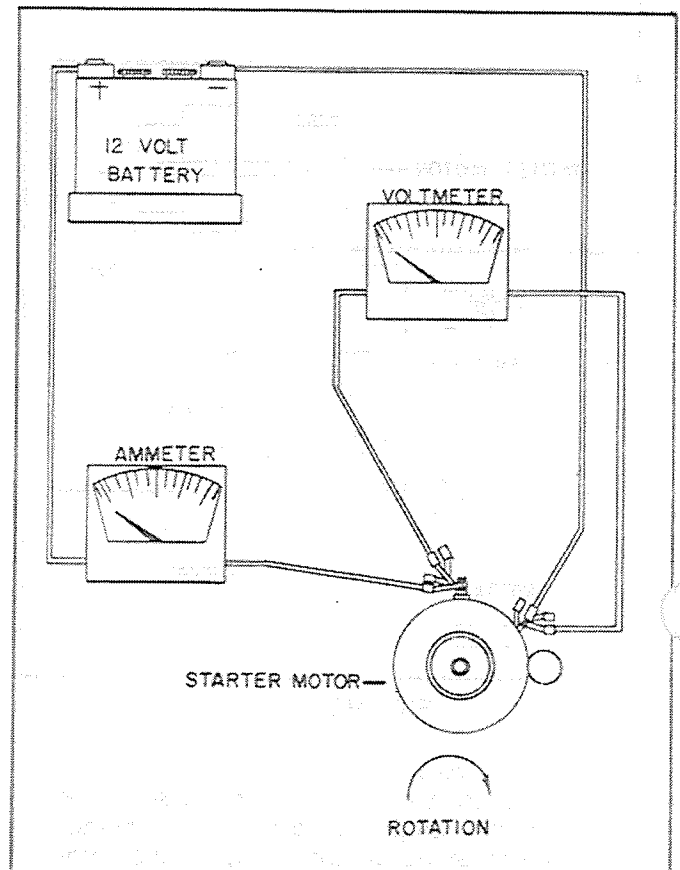

FIGURE 14
1. Connect a voltmeter between the starter terminal and motor frame. Using a torque wrench to stall motor armature, Figure 14, connect starter motor through an ammeter to a 12-volt battery.